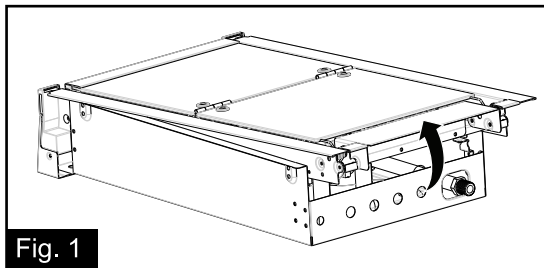

Fig. 1
1. Remove packing material, tape and any temporary labels from your hob. (Fig. 1)